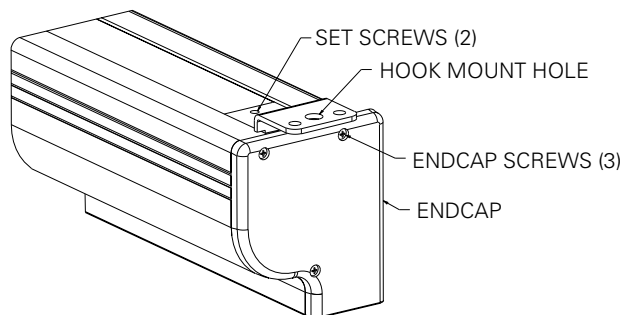

FIGURE 3
2. The top of the screen case has a channel that the ceiling hook brackets slide into. Remove the end cap on the right end of the case and insert the brackets into the case channel. Lock the brackets in place by tightening two set screws. Refer to figure 3.